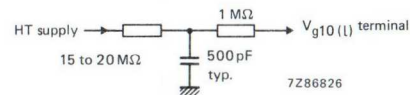

Fig. 10.
1. These values are valid at cut-off of both flood guns and the writing gun. The H.T. unit must be capable of supplying 0,5 mA. To protect the tube against excessive surge current during erasure, an RC network as shown in Fig. 10 must be connected in series with the screen terminal lead; the resistance of 15 to 20 M Ω includes the internal resistance of the H.T. supply.